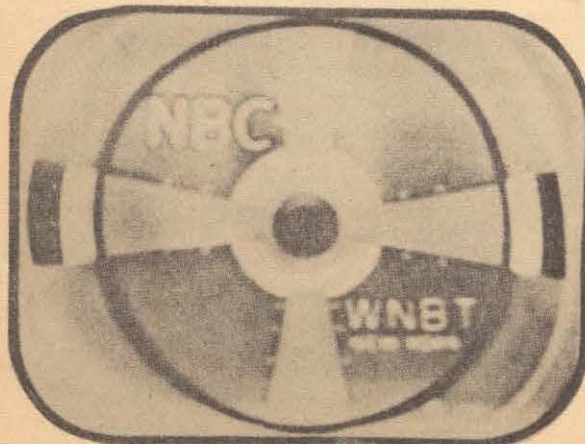

Fig. 7 Focus Control Misadjusted
**FOCUS CONTROL AND FOCUSING ADJUSTMENTS:** Figure 7 illustrates the appearance of the received test pattern when the electron beam is "out of focus". The image is not sharply defined as in the normal picture of Figure 1.